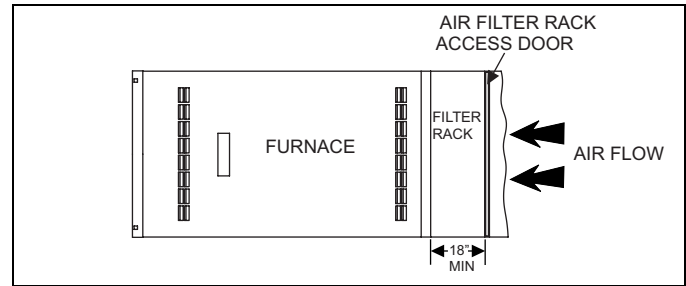
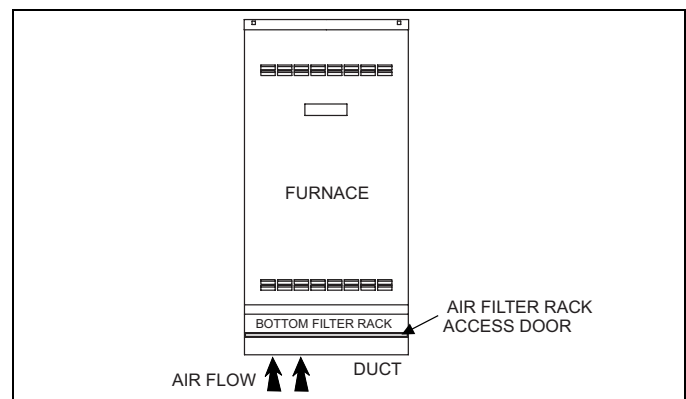

FIGURE 9: External Air Filter Rack - Horizontal Left Position
FIGURE 12: External Air Filter Rack - Bottom Position
- b. If the air filter is on the bottom of the furnace then you have a bottom return. Refer to Figure 12 or for horizontal applications refer to Figure 9.
The air filter is in a rack that is attached to the casing of the furnace or placed in the return air duct. Figures 9, 10, 11 & 12 indicate possible external air filter box locations.